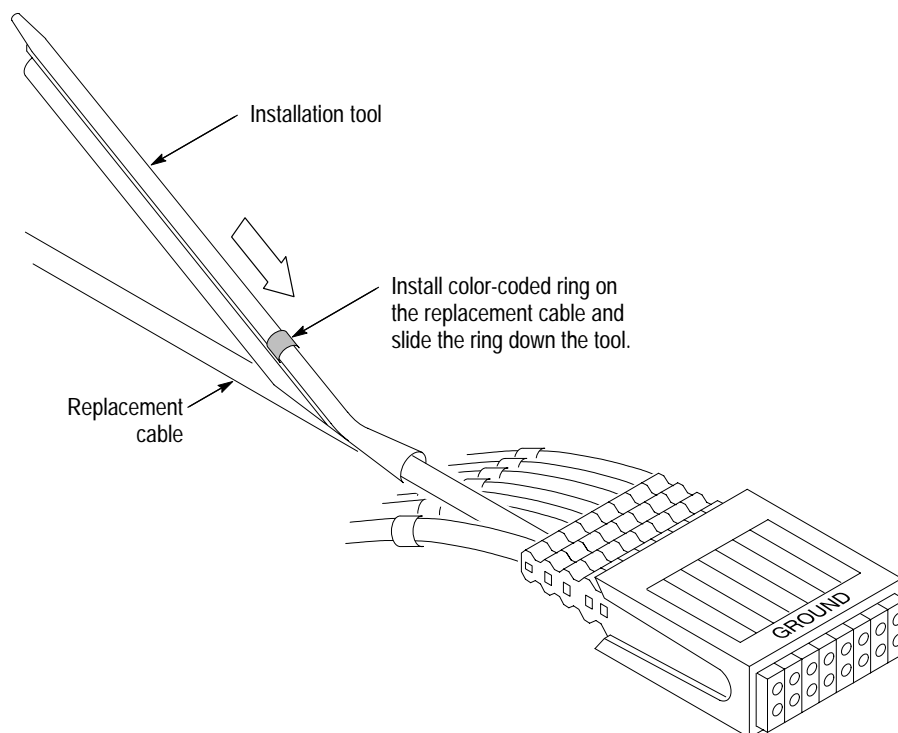

Figure 14: Installing the color-coded ring
16. Refer to Figure 14 and place the installation tool over the replacement podlet cable as shown. Slide the color-coded ring down the installation tool onto the replacement cable. Position the ring so that it is in the same relative position as the other color-coded rings (approximately 0.5-inch from the podlet).